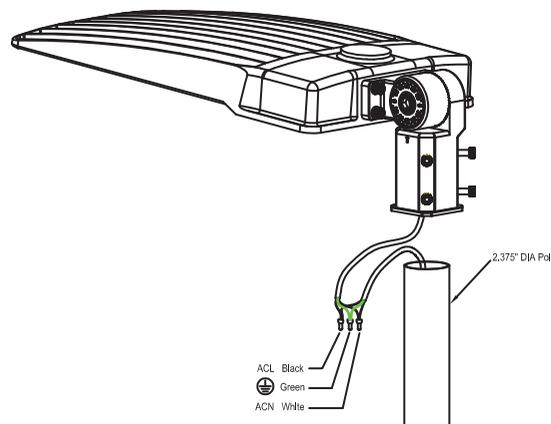

Fig. 10
1. Once completed, insert the slipfitter onto the pole (see FIG. 10)